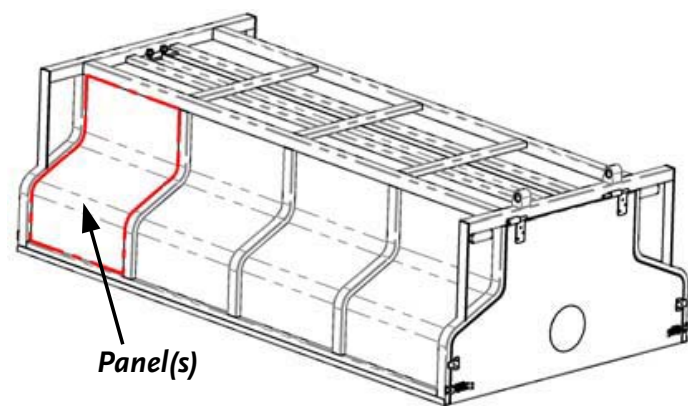

Figure 45
3. With the assistance of **at least** one other person, turn the Bed over onto its top, to remove the Blue Plastic Film from the exterior and underside of the Bed. Use the Utility Knife to cut around the Black Frame of the Trailer for the individual panels (**Figure 45**). Once you have cut around the individual panels, use the point of the Knife to begin peeling at the edge.